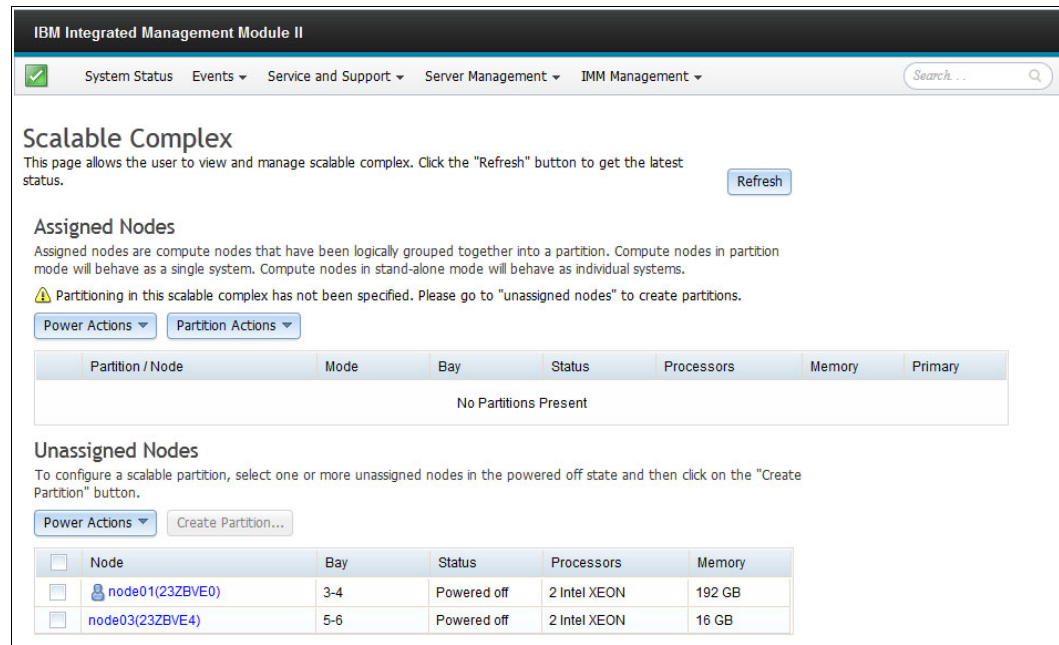

Figure 5-38 IMM web interface Scalable Complex window
- From the Scalable Complex window, select the Unassigned Nodes that you want to form into a logical partition, as shown in Figure 5-38